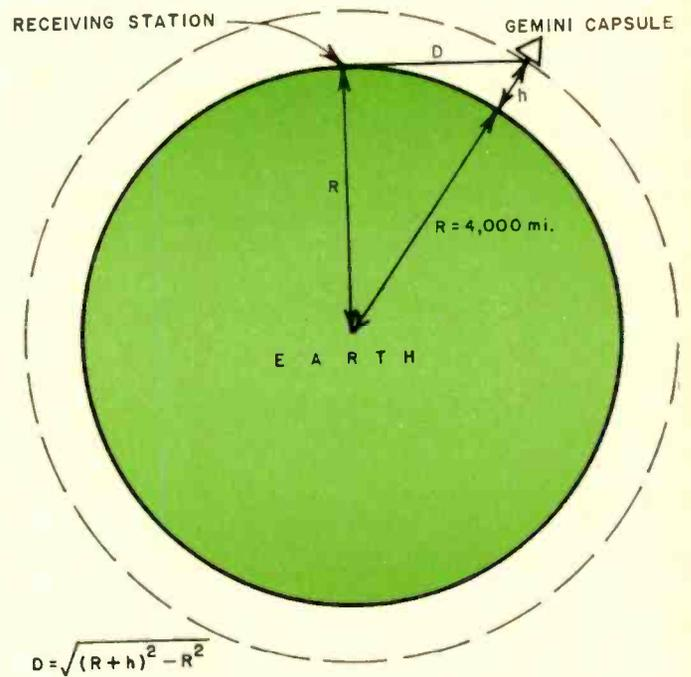

Fig. 1. Maximum distance to space vehicle at the horizon.
If the anticipated orbit is achieved, the height of the vehicle above the earth (h) will be between 90 and 150 miles. Fig. 1 shows how the Pythagorean equation can be used to calculate the maximum distance (D) to the capsule when it is at the horizon. R is the radius of the earth and h is chosen as 125 miles for the purposes of the calculations. $D = \sqrt{(R+h)^2 - R^2} = 1000$ miles.